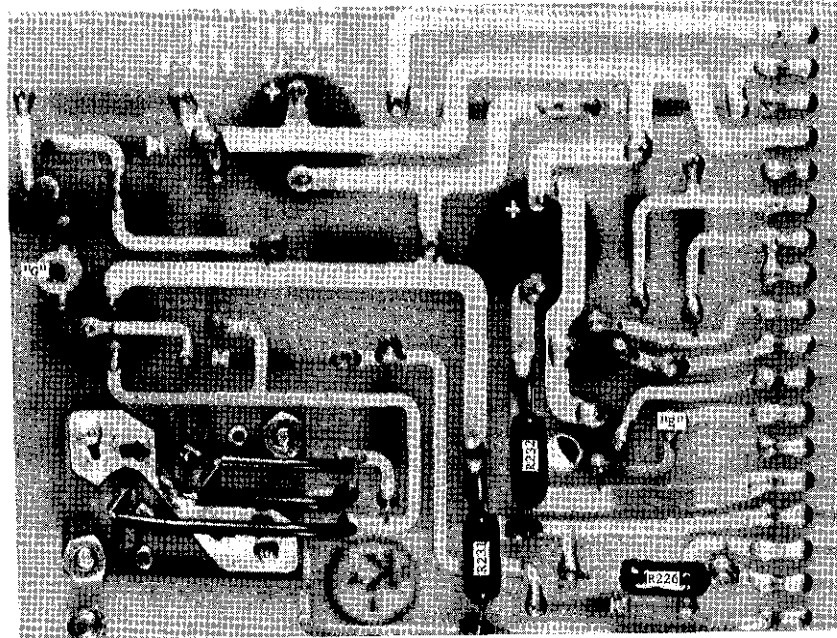

FIGURE 26. Resistor and Test Point Locations on Printed Circuit 74, Bottom Face.
2. Set the charger bias voltage to -8.1 volts dc at point G, Figure 26. Adjust potentiometer R228 (Figure 27) for this value.